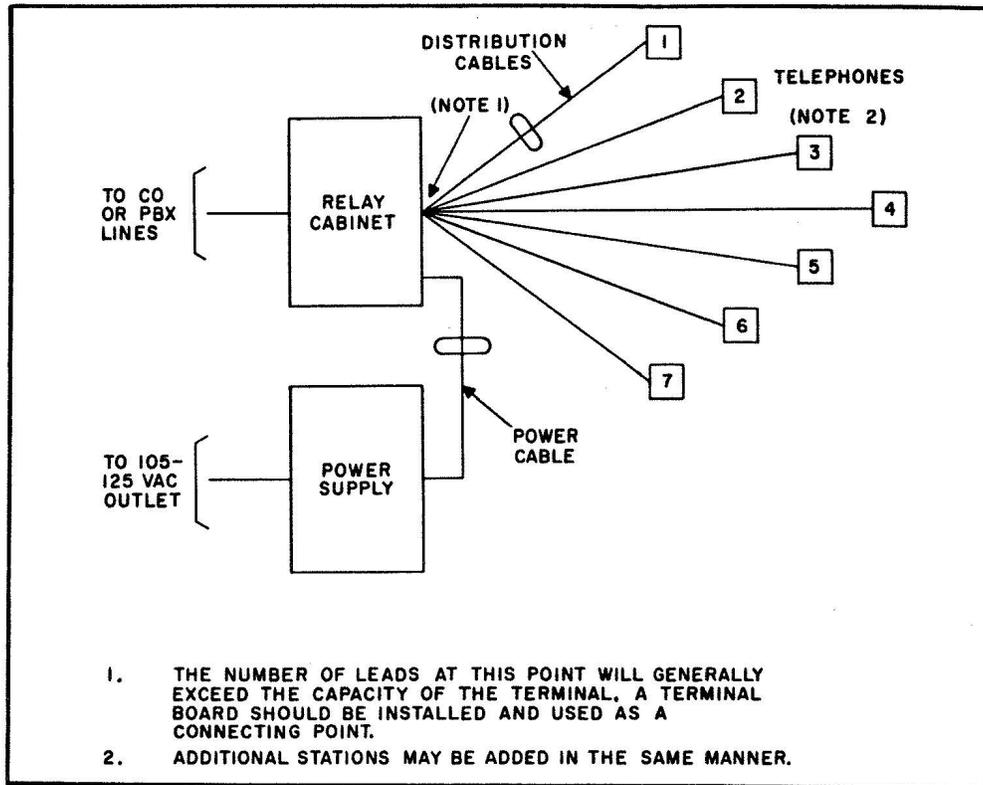

Figure 12. Typical Radial Cabling System
- Figure 12. Typical Radial Cabling Plan
If the radial cabling plan is used, the cable is run individually to each telephone from the relay cabinet, as shown in figure 12. A terminal board should be mounted on the wall to the right of the relay cabinet and used as a splicing point when the number of leads become excessive.